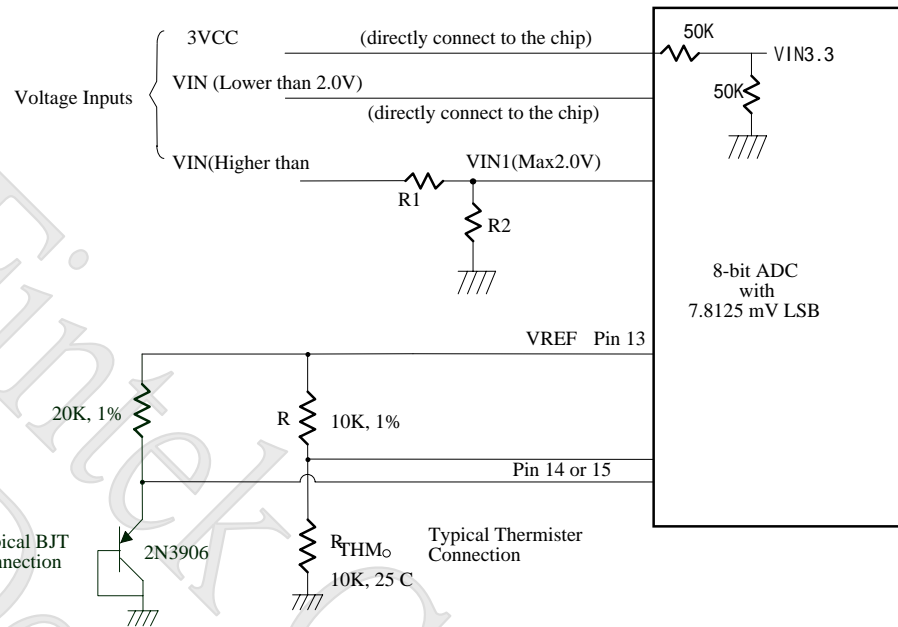

Figure 5-3
The F75375S can connect two thermistors to measure environment temperature or remote temperature. The specification of thermistor should be considered to (1)  $\beta$  value is 3435K (2) resistor value is 10K ohm at 25°C. In the Figure 5-3, the thermistor is connected by a serial resistor with 10K Ohm, then connected to VREF (pin13).
Also, if the CPU, GPU or external circuits provide thermal diode for temperature monitor, F75375S is capable to these situations. The build-in reference table is for PNP 2N3906, and each different kind of thermal diode should be matched with specific offset and BJT gain. In the Figure 5-3, the 2N3906 PNP is connected by a serial resistor with 20K ohm, then connect to VREF (pin13).